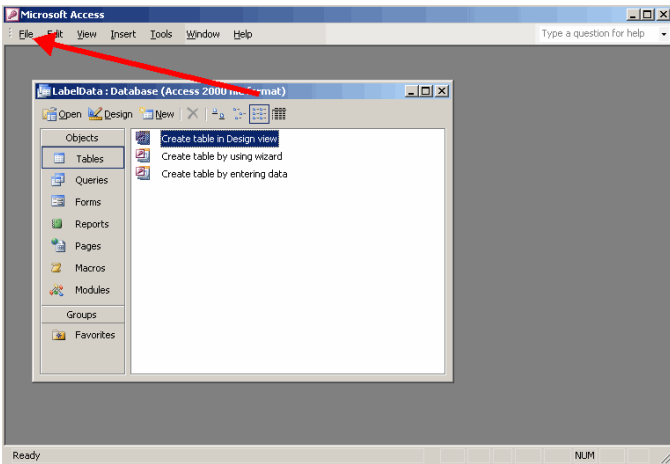

Figure 2-5a
2.3.1. Click **File > Get External Data > Import** when the **Tables** screen opens. (Figure 2-5a, b)